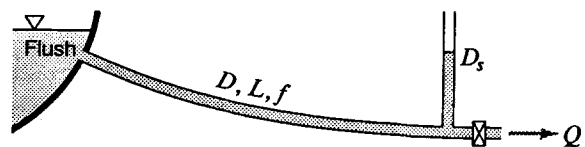

Figure X12.7.1
- 12.7.1 A 48-in-diameter steel pipe ($f = 0.020$, flush inlet) 4000 ft long delivers 275 cfs of water to a power plant. It is protected from water hammer by a 7-ft-diameter surge tank located at the downstream end just before the control valve (Fig. X12.7.1). Without using trial and error, obtain a safe, preliminary estimate of the largest height (above the reservoir surface elevation) to which a surge would rise. Neglect all velocity heads and minor losses; in the surge tank (only) neglect fluid friction and inertial effects.